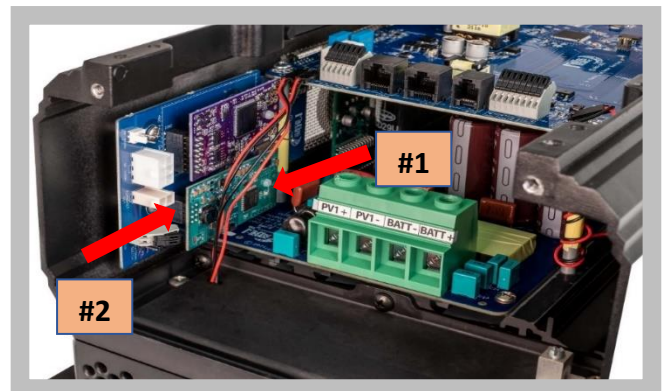

Figure 13
1. The RSS sub-board (green) connects to the bottom half of the Options Board. See **Figure 13**.